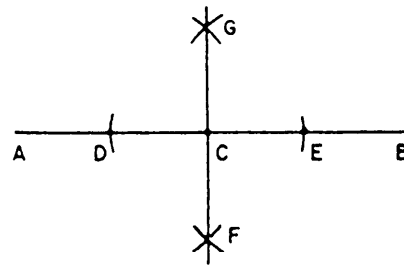
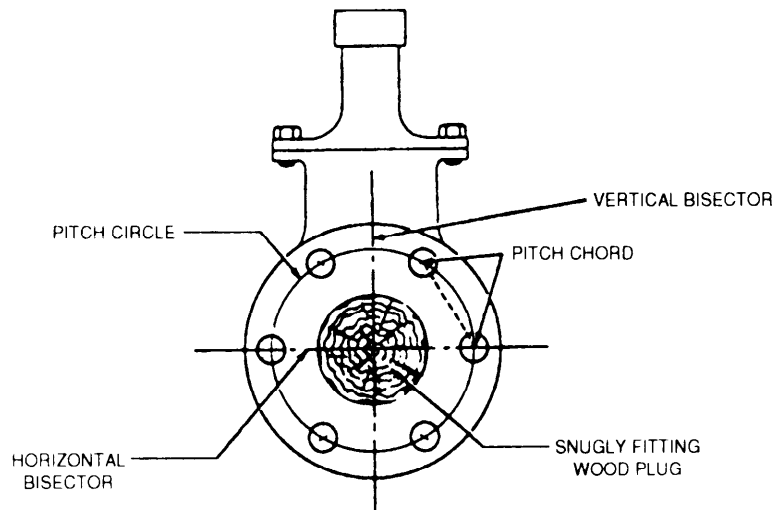

Figure 2-27.—Layout of a perpendicular from a point on a line.
Figure 2-30.—Flange layout terminology.
Use a divider to lay out a perpendicular FROM a point ON a line, as shown in figure 2-27. Lightly prick-punch point C on line AB. Then, set the divider to any distance to scribe arcs that intersect AB at D and E with C as the center. Punch C and E lightly. With D and E as centers and with the setting of the divider increased somewhat, scribe arcs that cross at points such as F and G. The line drawn through F and G will pass through point C and be perpendicular to line AB.
Before describing the procedure used to make valve flange layouts, we need to clarify the terminology used in the description. Figure 2-30 shows a valve flange with the bolt holes marked on the bolt circle. The straight-line distance between the centers of two adjacent holes is called the **PITCH CHORD**. The bolt hole circle itself is called the **PITCH CIRCLE**. The vertical line across the face of the flange is the **VERTICAL BISECTOR**, and the horizontal line across the face of the flange is the **HORIZONTAL BISECTOR**.
1. Fit a fine grain wood plug into the opening in each flange. (See fig. 2-30.) The plug should fit snugly and be flush with the face of the flange.
5. Draw the vertical bisector. This line must pass through the center point of the flange and must be visually located directly in line with the axis of the valve stem (see fig. 2-30).
6. Draw the horizontal bisector. This line also must pass through the center point of the flange and must be laid out at a right angle to the vertical bisector. (See fig. 2-30 and fig. 2-27.)